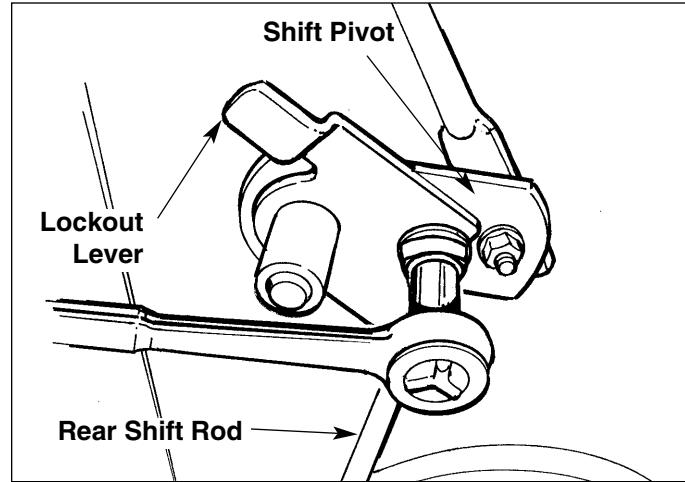

Figure B-21. Lockout Lever/Shift Pivot Assembly
5. See Figure B-21. Remove the hex nut that secures the lockout lever to the shift pivot assembly. (See Figure B-21 for complete hardware details.)